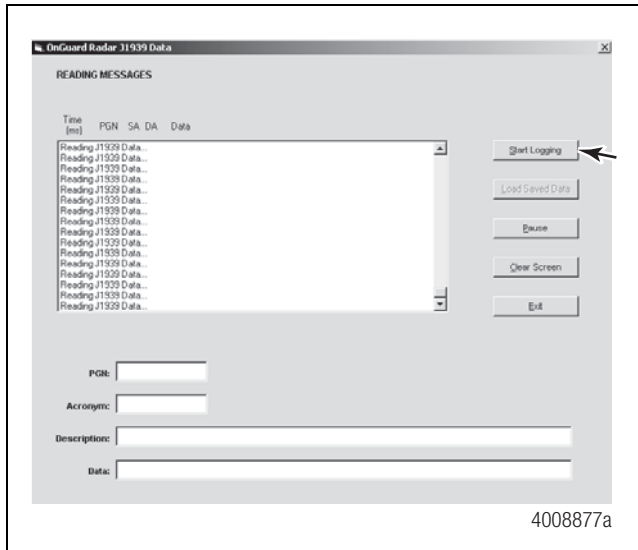
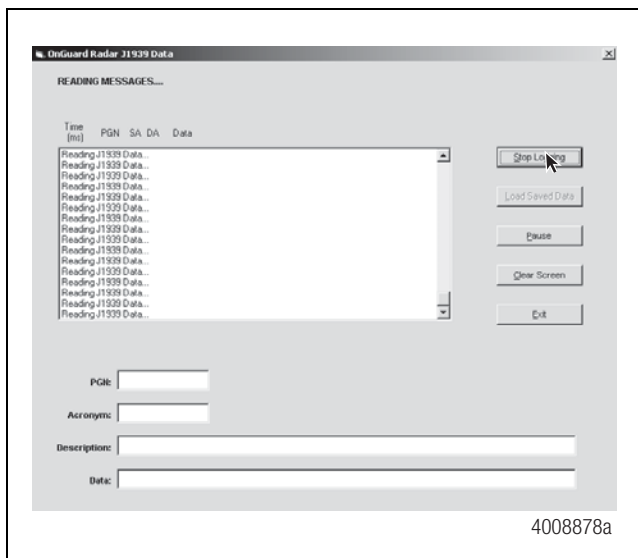

Figure 2.15
Figure 2.16
- To capture a log file, click on "Start Logging". Figure 2.15. A single log file will capture up to 5 minutes of information. To pause a log file, click on "Pause"; to resume logging, click on "Resume". Once the required data has been captured, click on "Stop Logging". Figure 2.16.